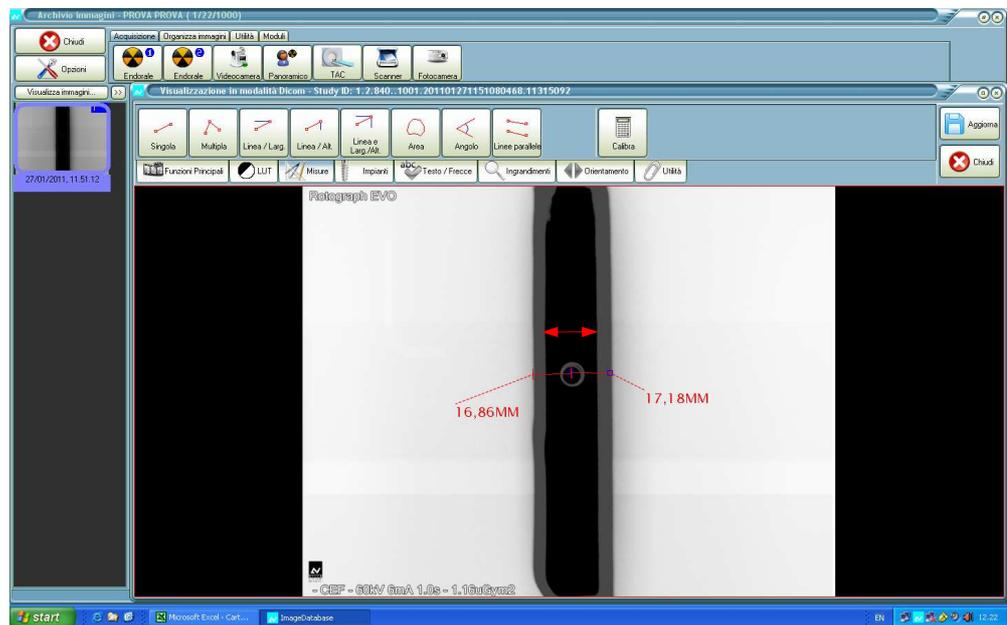

Figure 6-19
1. Press "Examination mode Selection – M" (11)  key; the Digital Sensor will be aligned to the X-ray beam.
- If the rings are not centered (Figure 6-19), it is necessary to adjust the mechanical position of the rings (see paragraph 9.6.1).